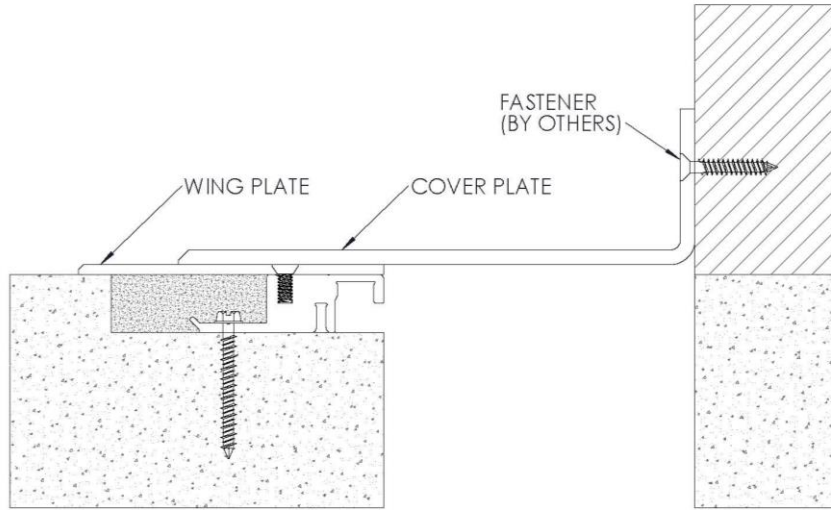

FIGURE 5
5. Position the cover plate against the wall as shown, making sure the bottom of its horizontal face is level with the top surface of the wing plate. Attach the plate to the wall using appropriate fasteners (by others) for the wall type, spaced 18" o.c. **See Figure 5**